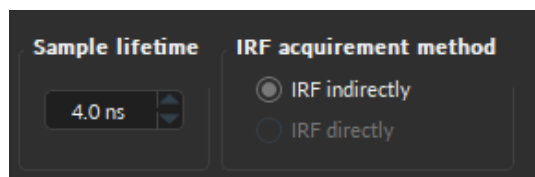

Figure 2.7: Enter Sample Lifetime
7. Enter the sample fluorescence lifetime value into the window (as in Fig. 2.7). (e.g. Fluorescein Fluorescence lifetime = 4 ns²).